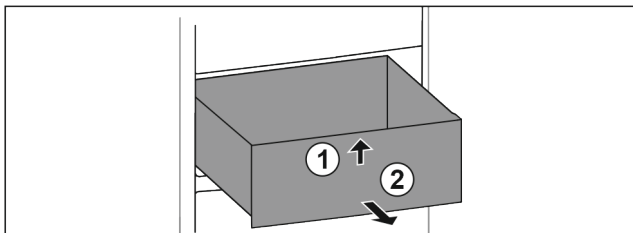

Fig. 19
- ▶ Lift up drawer at the front. Fig. 19 (1)
- ▶ Remove drawer to the front. Fig. 19 (2)